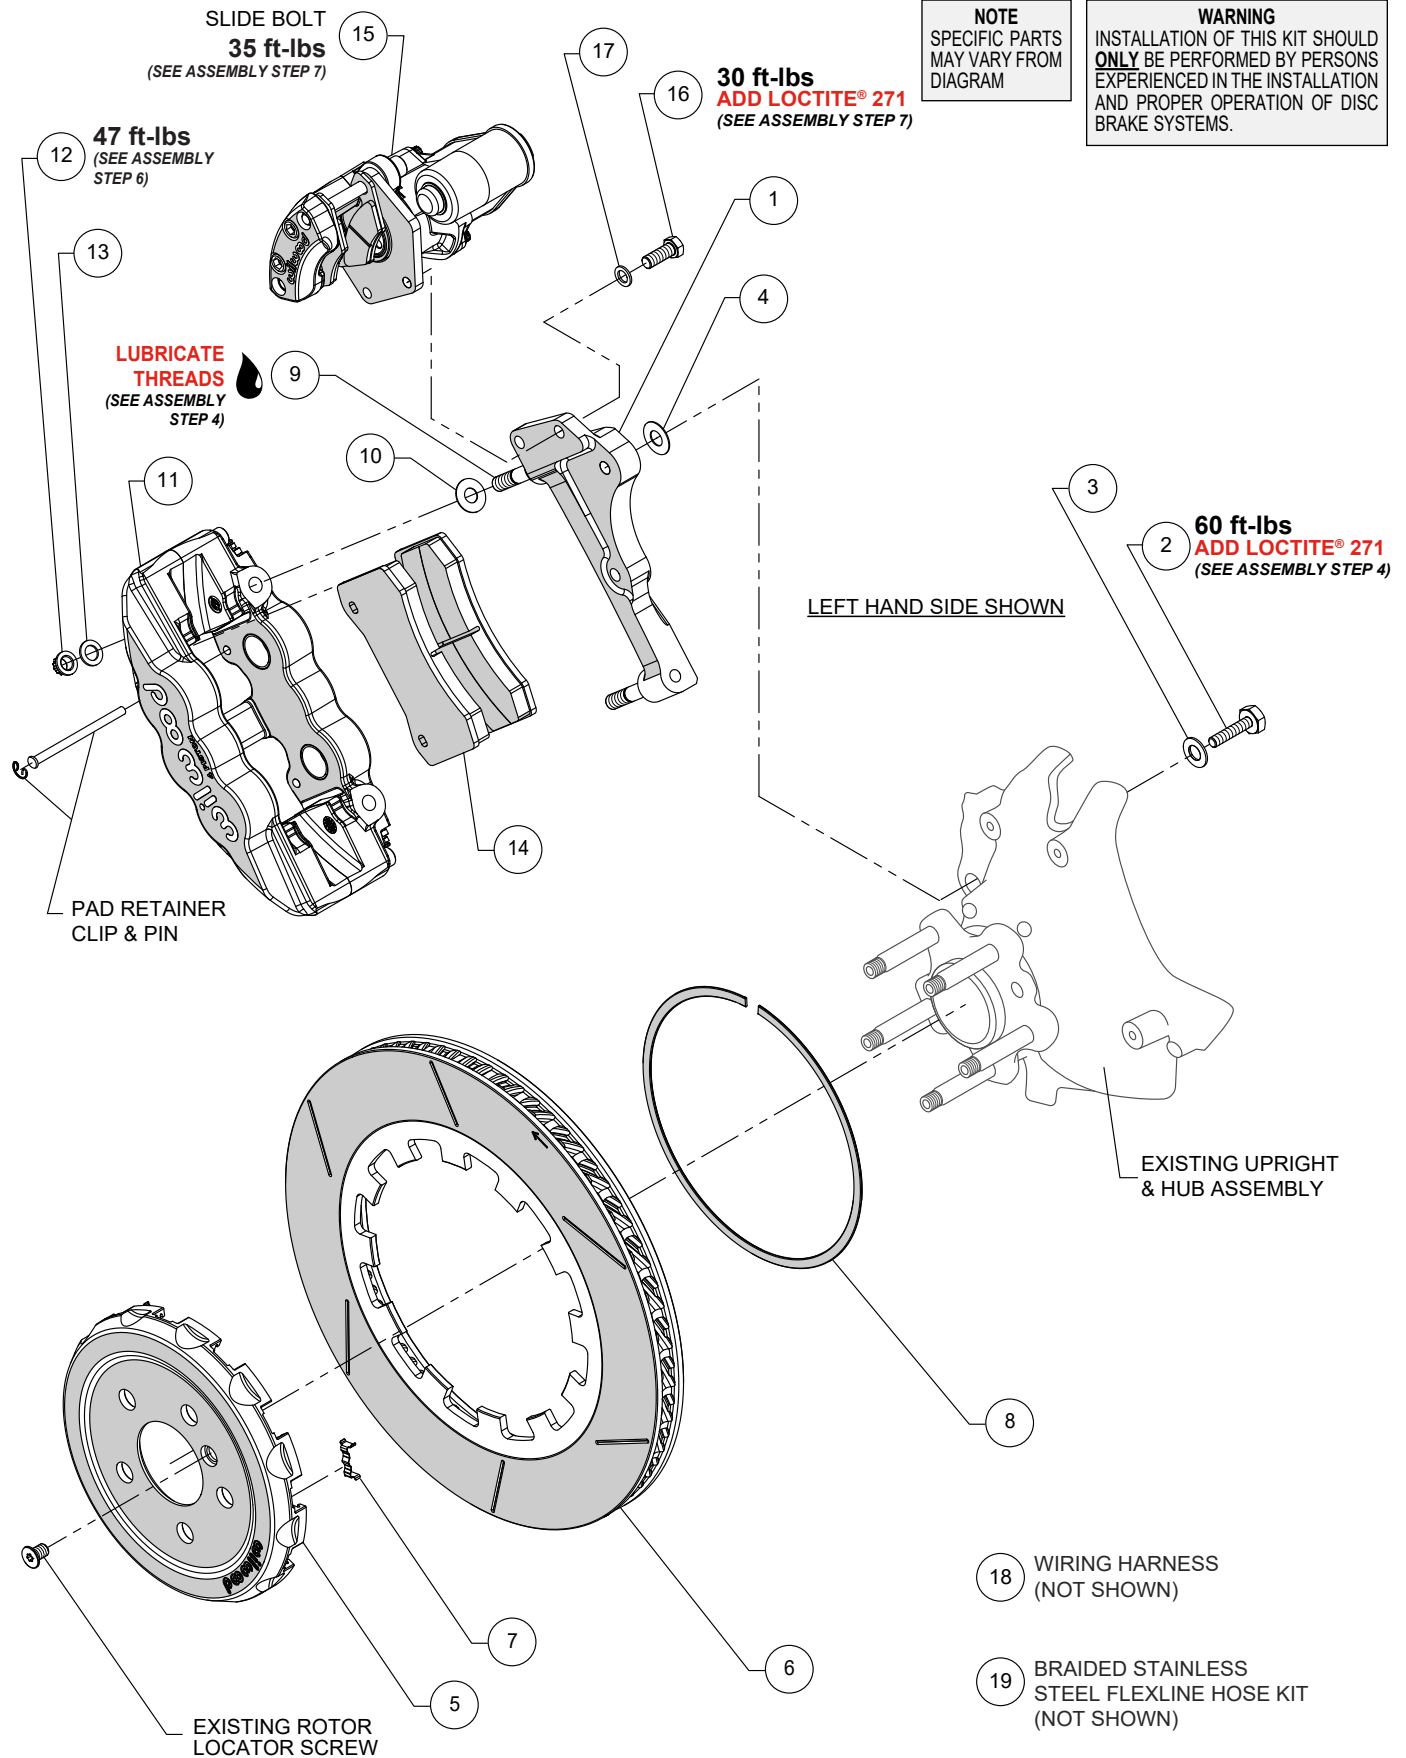

Figure 1B Typical Installation Configuration
**For 140-18482:** Insert the dynamic mount wear clips (7) into the slots in the hat (5), Photo 2A and 2B. Orient the rotor (6) as shown in Figure 1B and Photo 2C, with the flush side of mount lugs facing the hat. Secure the rotor to the hat using the snap ring (8) by simultaneously pushing down on the rotor and installing the ring into the groove in the hat, as shown in Photo 2D. **Carefully inspect snap ring to ensure complete engagement in the groove.**